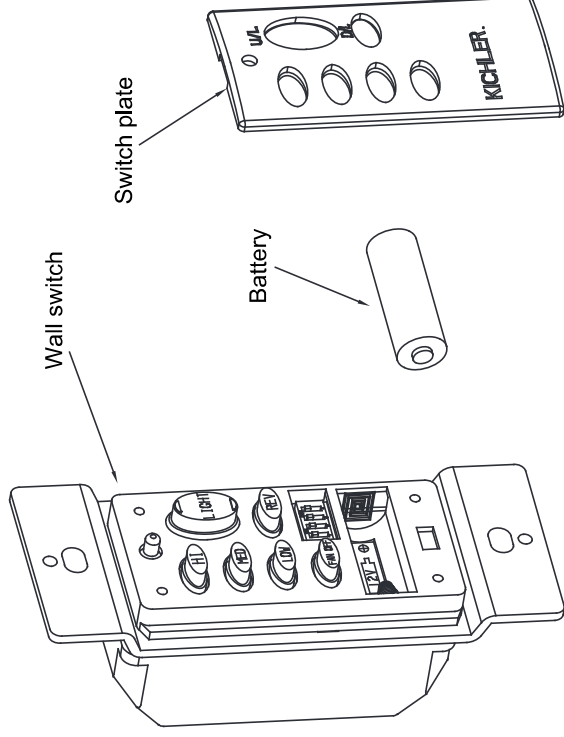

Fig. 19
Step 1. Use a small flat screwdriver at the top or bottom of the switch plate to gently pry apart the switch plate from the wall switch. Install the 12volt battery included with the wall mount control system and make sure it is seated correctly. Replace the switch plate (Fig. 19).
Step 2. Test the transmitter by pressing and releasing ANY button. A RED light should illuminate. If not, check to make sure the battery is inserted and seated correctly (Fig. 19).